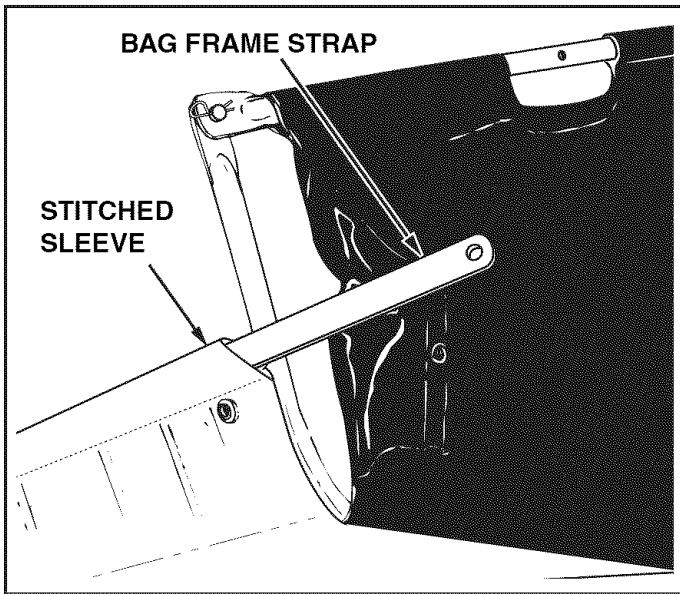

FIGURE 11
- Insert the bag frame strap into the stitched sleeve at the front edge of the bag bottom. See figure 11.